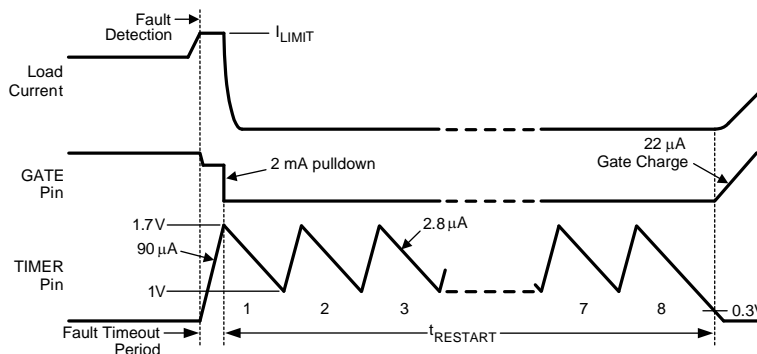

Figure 34. Restart Sequence
The LM25066I/A provides an automatic restart sequence which consists of the TIMER pin cycling between 1.7V and 1V seven times after the Fault Timeout Period, as shown in Figure 34. The period of each cycle is determined by the  $90\ \mu\text{A}$  charging current, and the  $2.8\ \mu\text{A}$  discharge current, and the value of the capacitor  $C_T$ . When the TIMER pin reaches 0.3V during the eighth high-to-low ramp, the  $22\ \mu\text{A}$  current source at the GATE pin turns on  $Q_1$ . If the fault condition is still present, the Fault Timeout Period and the restart sequence repeat. The  $\overline{\text{RETRY}}$  pin allows selecting no retries or infinite retries. Finer control of the retry behavior can be achieved through the DEVICE\_SETUP (D9h) register. Retry counts of 0, 1, 2, 4, 8, 16 or infinite may be selected by setting the appropriate bits in the DEVICE\_SETUP (D9h) register.
**C) Restart Timing** - For the LM25066I/A, after the Fault Timeout Period described above,  $C_T$  is discharged by the 2.8  $\mu\text{A}$  current sink to 1V. The TIMER pin then cycles through seven additional charge/discharge cycles between 1V and 1.7V as shown in Figure 34. The restart time ends when the TIMER pin voltage reaches 0.3V during the final high-to-low ramp. The restart time, after the Fault Timeout Period, is equal to: